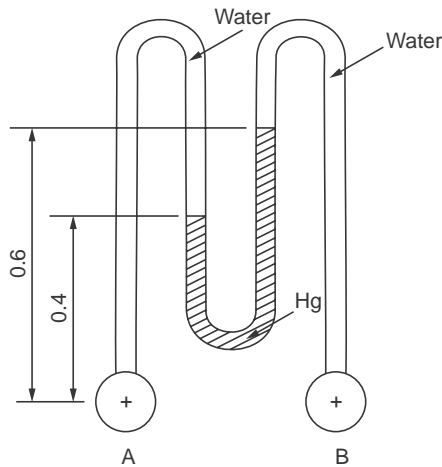

Figure E. 2.14
- E.2.14.** Determine the pressure difference between A and B shown in Fig. E.2.14.